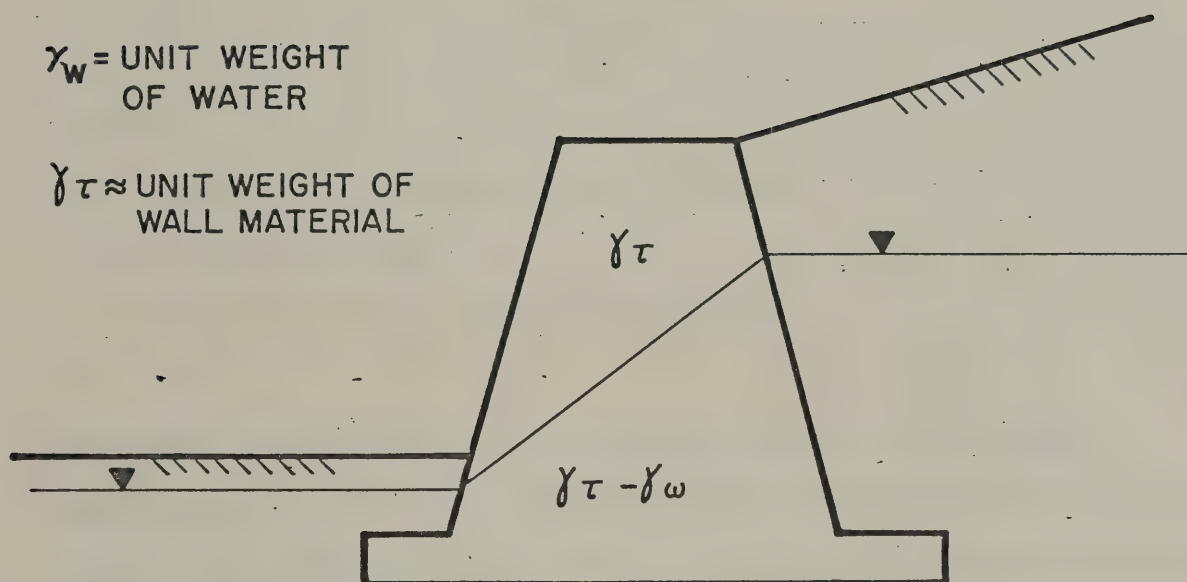

Figure 1. GREWALL'S method of accounting for uplift forces due to water pressure.
When ground water level is present above the footing elevations it is necessary to use the buoyant unit weight of the wall material, for that portion of the wall under water (see Figure 1).
2b) For broken back wall problems, model the wall surface using two lines and label the points with their coordinates. Extend the surface from the break point to the backfill surface as shown in figure 1 (pg. 8). Point (C) is now a point on backfill, number the backfill lines including this point.